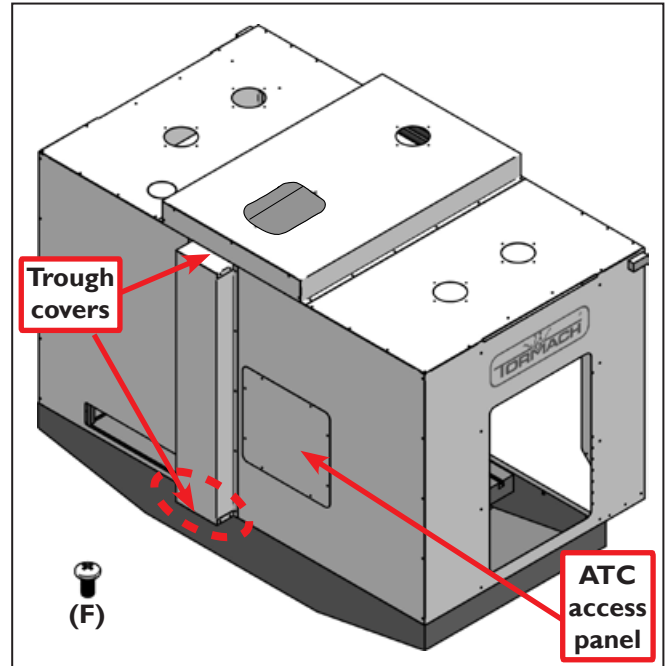

Figure 15
38. Place the two Trough Covers (E.23) onto the center back from the previous step (see **Figure 15**). Loosely fasten with (F) screws along the edges of the panels.
39. Place the ATC Access Panel (E.35) onto the left rear panel (see **Figure 15**) and loosely fasten with (F) screws along the edges of the panel.